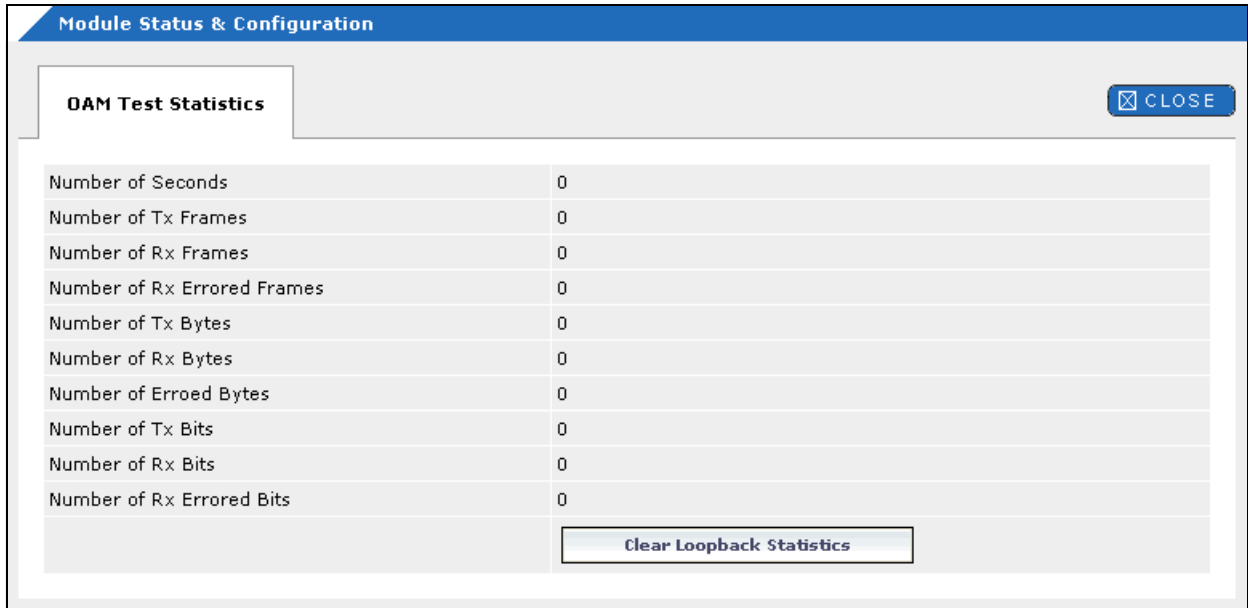

Figure 111. OAM Test Statistics
7. To view test statistics, click **Show OAM Test Statistics**. An example of the counters is shown in Figure 111.